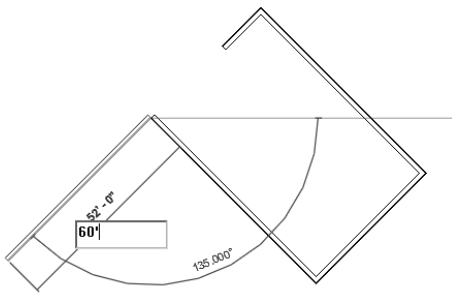

Figure 3-43 Sketching the fifth inclined wall segment
8. Similarly, create the fifth inclined wall segment of 60' length, as shown in Figure 3-43.